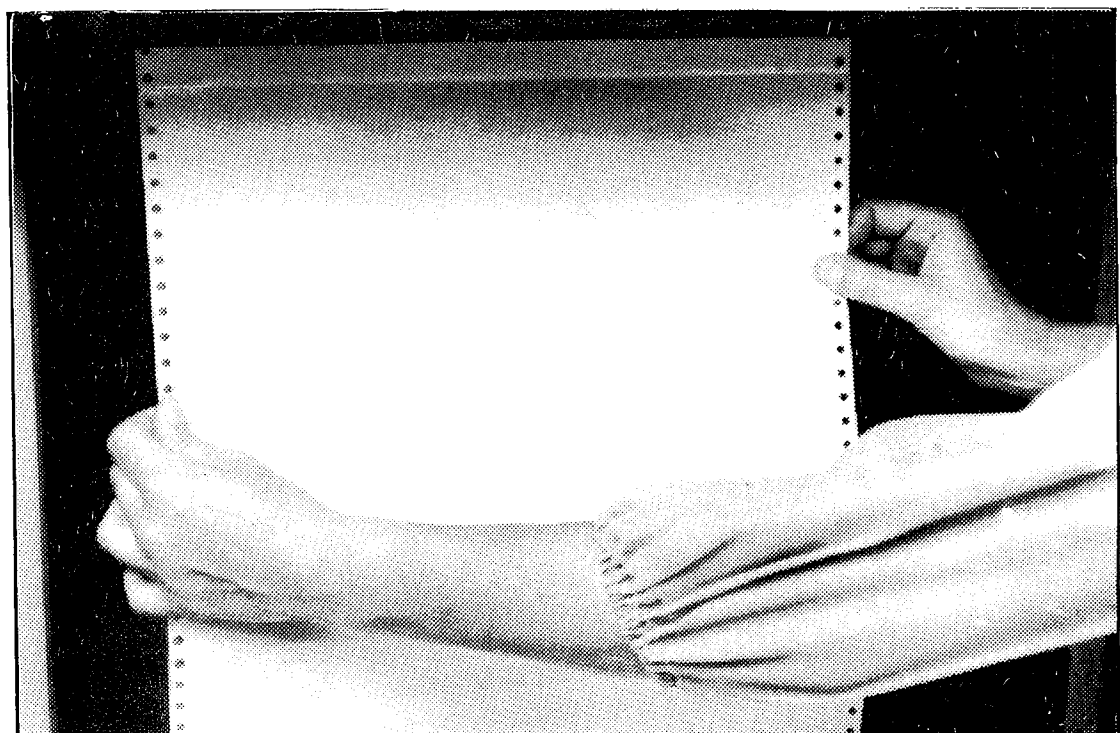

Figure 8. Tensioning Form
- Grasp paper on both sides below entrance slot, and gently pull downwards so that paper is taut within printer (Figure 8).